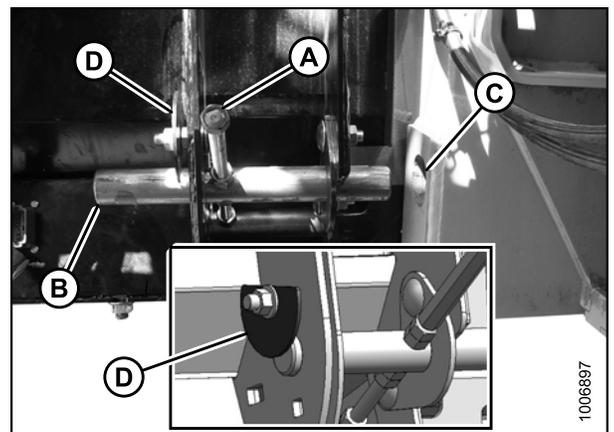

Figure 3.58: Feeder House Lock
- Move support channel (A) according to measurement in Step 7., page 57 to achieve proper alignment of locking pin and feeder house receptacle. Refer to Figure 3.58: Feeder House Lock, page 57.